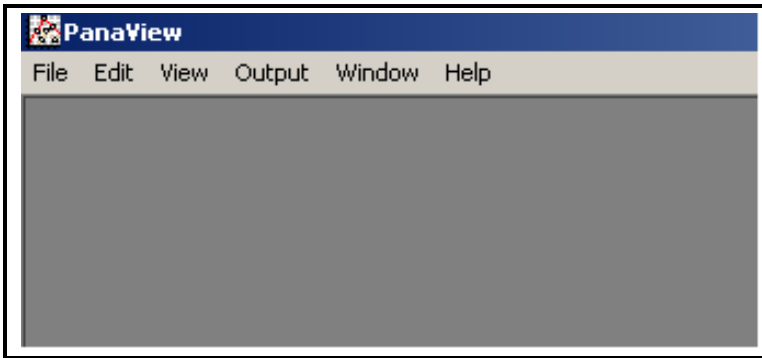

Figure 3-2: The Basic PanaView Window
2. As shown in Figure 3-2 below, the default PanaView initial startup window contains only the following basic components of the interface (listed from top to bottom):
Note: *To make the image in Figure 3-2 below more readable on this page, the window was compressed both vertically and horizontally from its actual dimensions.*